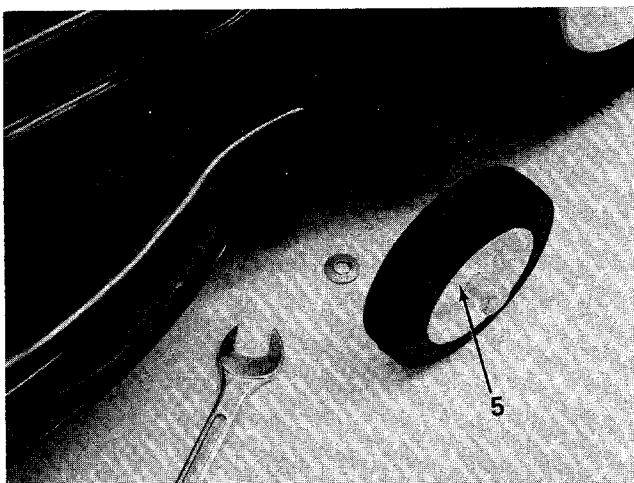

FIGURE 16.
5. **Deck Wheel Bearings (4).** Remove the axle bolt and lubricate with multi-purpose automotive grease once a season or after every 25 hours of operation. See figure 16.